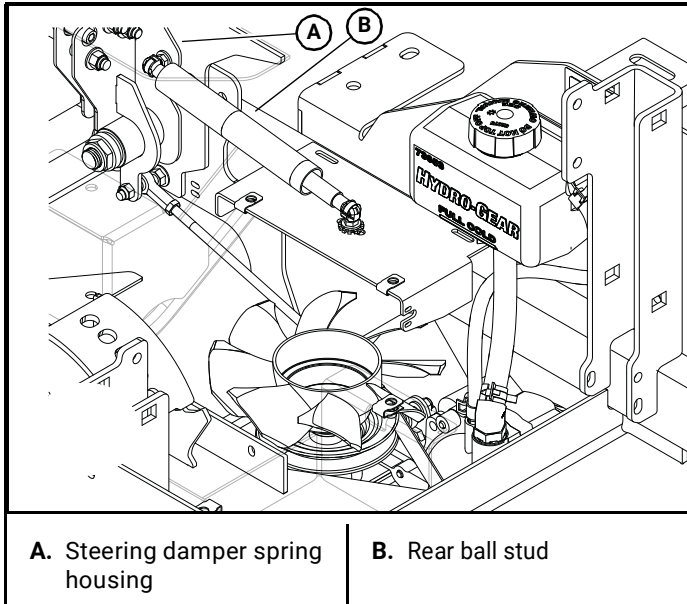

Figure 4-8
- Loosen the nut on the steering damper rear ball stud enough to allow the stud to move freely within the slot. Figure 4-8
- Pull the damper rod end toward the back of the slot, past the point that the internal spring is engaged. Figure 4-8